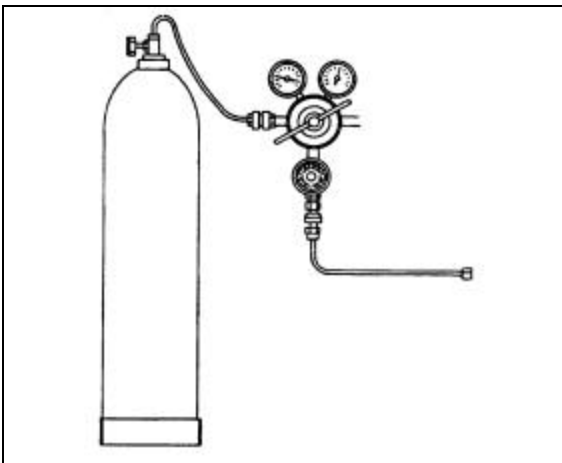

Figure 06-20: Assemble and Install Pressure Regulator Onto Nitrogen Tank
1. Carefully install the Pressure Reducer/Regulator assembly into the nitrogen tank, following the safety instructions. (Figure 06-20) The nitrogen bottle must not have a level below 45 bars (652.5 psi).